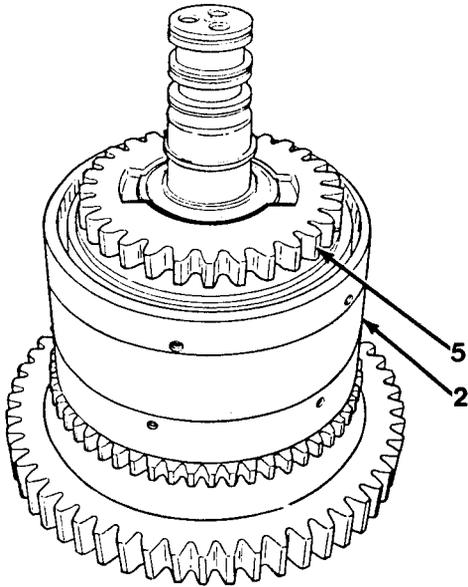

Figure 11-14
25. Install forward and rear welded assembly (5) onto clutch shaft assembly (2, Figure 11-14) and turn in both directions, alternately, while installing in order to align clutch plates. Measure height between shaft assembly (2) and face of gear on gear and hub welded assembly (5).
26. Remove forward and rear welded assembly (5) to check for alignment of all clutch plate teeth and any possible damage to teeth. If all clutch plate teeth were aligned, reinstall forward and rear welded assembly (5) onto clutch shaft assembly (2) to same height as measured in step 27. If not, repeat step 27.